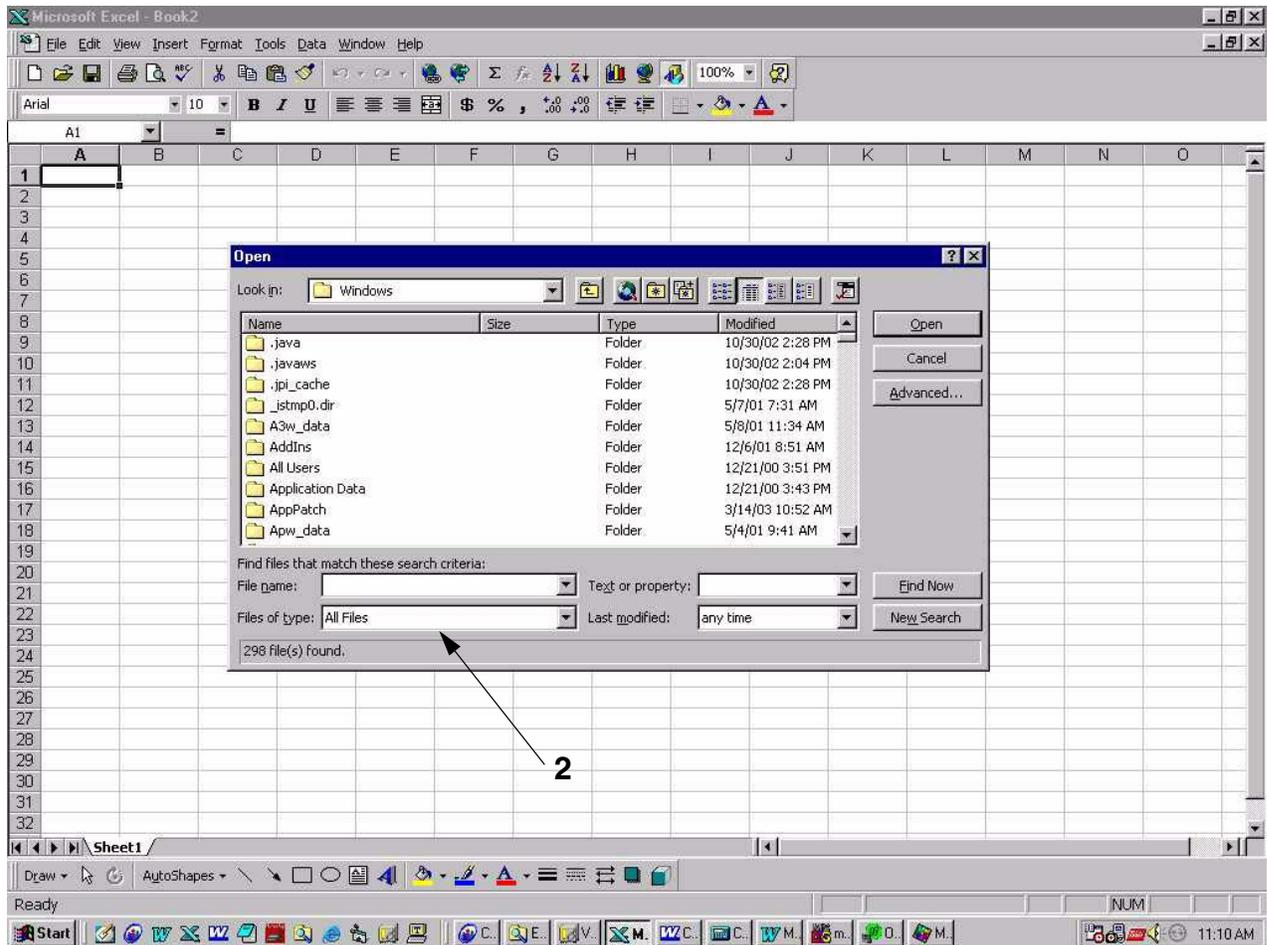

FIG. 2. Excel Window
2. Change file type to All Files (\*.\*). See FIG. 2.